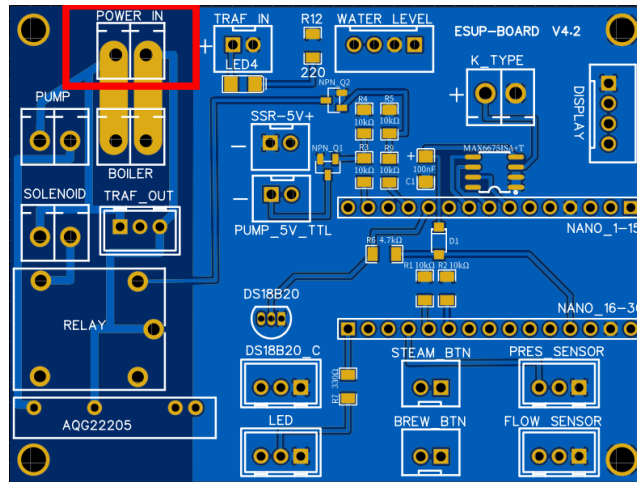

Fig.9.1
- Take the POWER IN cable from the package. Connect the green plug to the POWER IN main board (fig. 9.1)